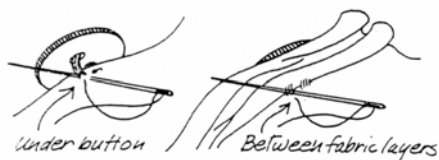

Figure 2
- Hide the knot and securing threads under the button OR between the fabric layers. (Figure 2)